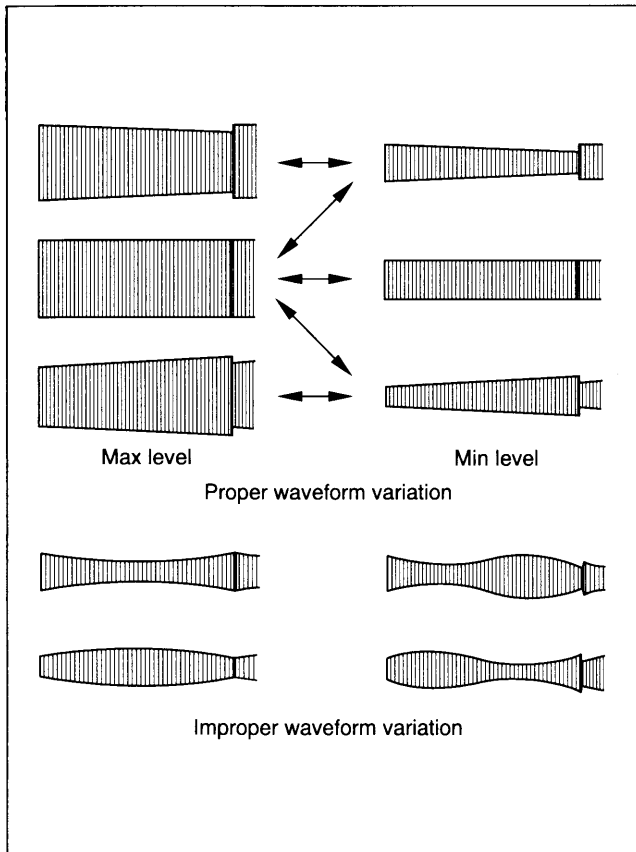

Fig. 2-4-1
- (1) Connect the oscilloscope to TP106(PB FM/COL) of the main board assembly and to TP111(D.FF) of the main board assembly for external sync connection.
- (2) Playing the alignment tape SP, observe the FM waveform.
- (3) Press the channel buttons (▲) and (▼) buttons simultaneously during playback to enter the manual tracking mode (This also brings tracking to the center.)
- (4) Make sure that there is no significant level drop of the FM waveform caused by the tracking operation, with its generally parallel and linear variation ensured. Perform the following adjustments when required. (Fig.2-4-1)